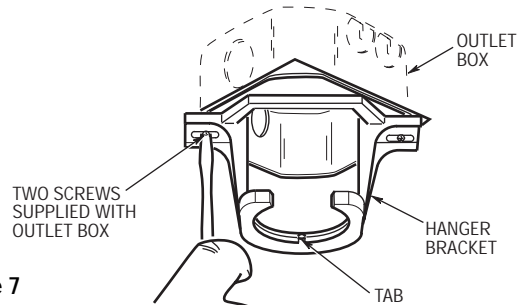
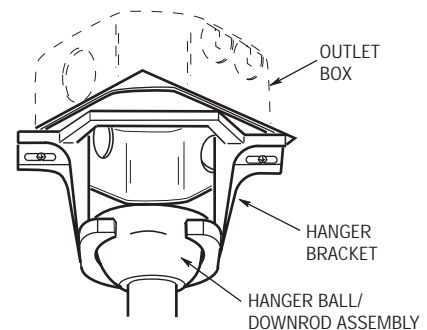

Figure 7
Figure 8
- 1. Securely attach the hanger bracket to the outlet box using the two screws supplied with the outlet box. (Figure 7).
- 2. Carefully lift the fan and seat the hanger ball/downrod assembly on the hanger bracket that was just attached to the outlet box (Figure 8). Be sure the groove in the ball is lined up with tab on the hanger bracket (Figure 7).